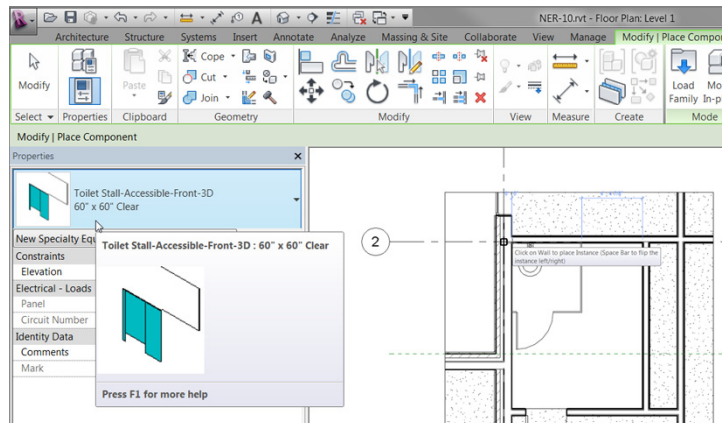

FIGURE 9.40: Placing the accessible stall
5. Pick the corner of the bathroom, as shown in Figure 9.40.